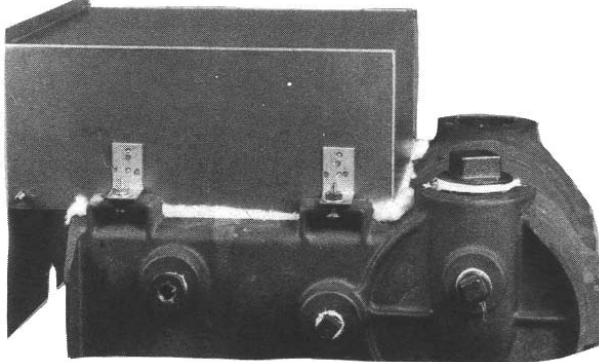

Figure 8: Canopy Installation
2. Position canopy on ceramic fiber gasket. See Figure 8.